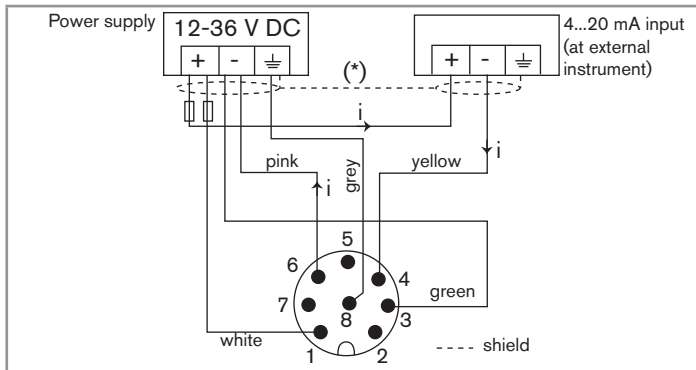
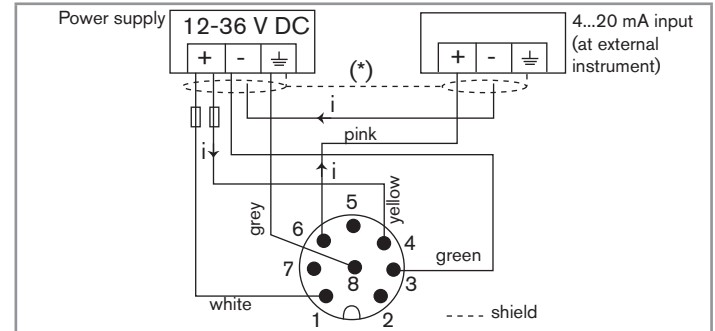

Fig. 26 : Wiring of the current output, in sinking mode, of a version with an 8-pin M12 fixed connector
Fig. 27 : Wiring of the current output, in sourcing mode, of a version with an 8-pin M12 fixed connector
See Fig. 26 and Fig. 27 for the related wiring charts.
(1) Use a voltage limiter depending on the load selected, e.g. for the solenoid valve, an EN 175301-803 fixed connector with integrated varistor.
(2) If the current output is needed, wire the 8-pin M12 connector acc. to Fig. 26 if the current output is wired in sinking mode, or acc. to Fig. 27 if the current output is wired in sourcing mode.